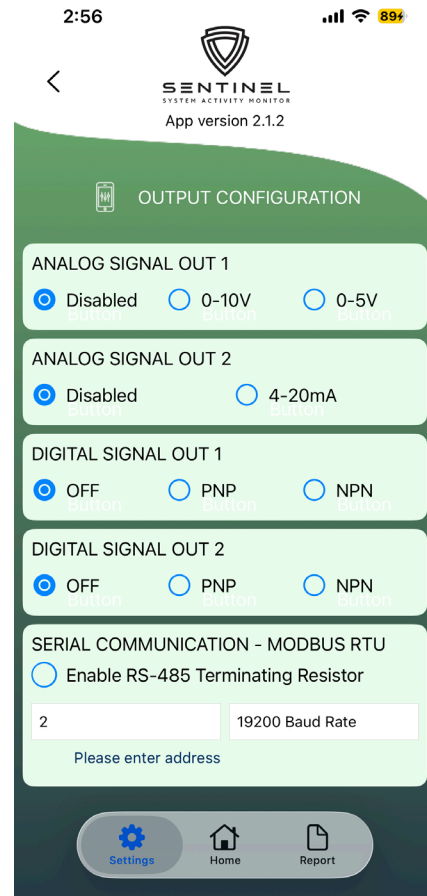

Figure 25
5. Go to "Output Configuration" and ensure all outputs are turned "Off" if communicating via RS-485. If not select appropriate settings for your configuration. As shown in figure 25